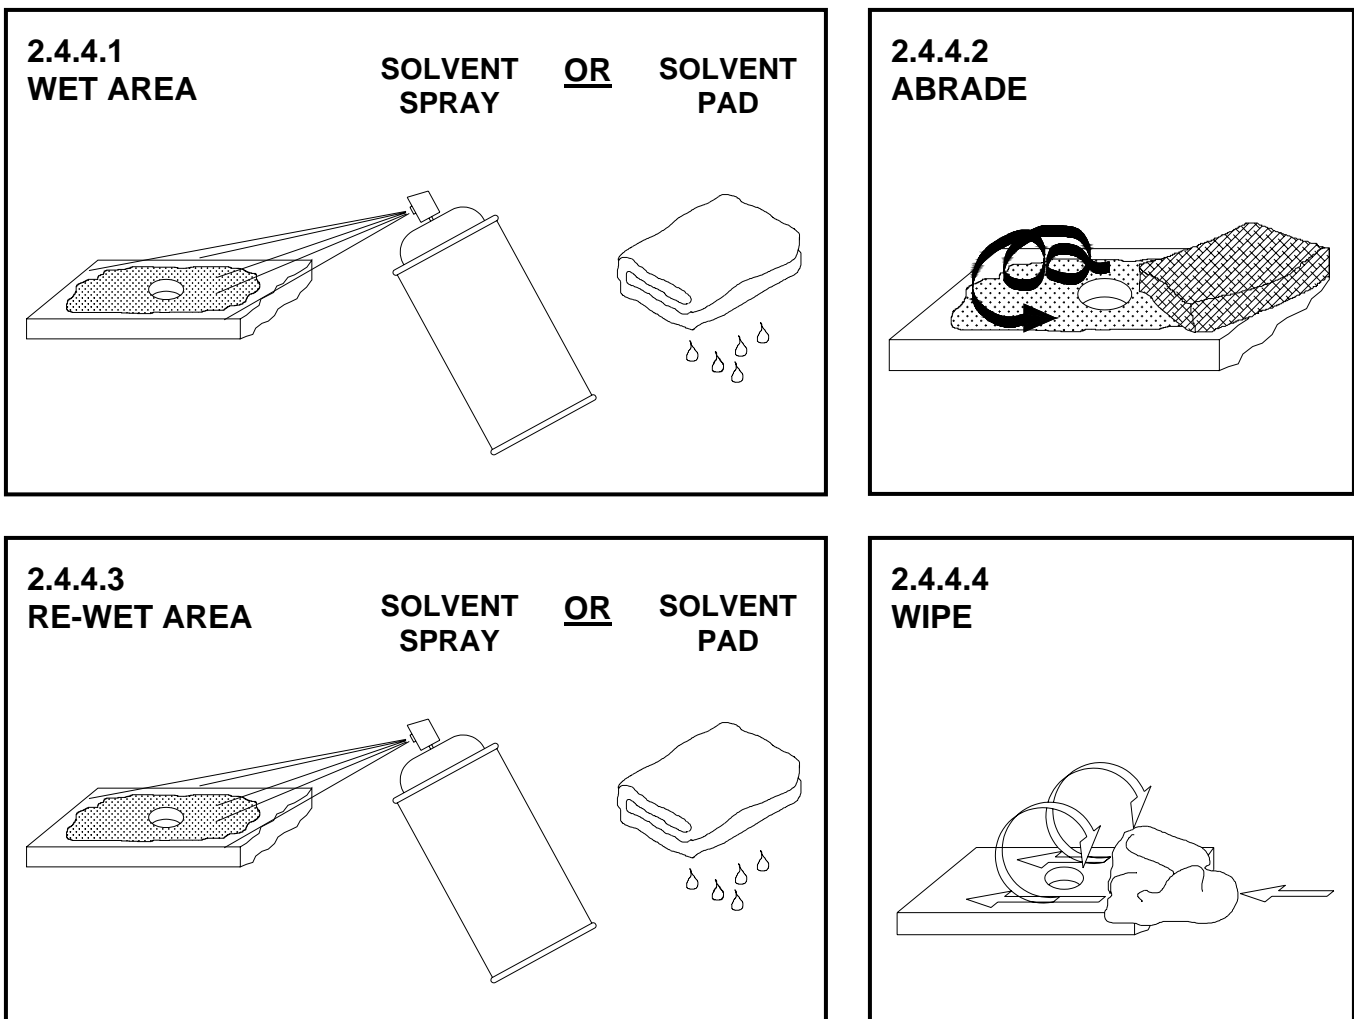

FIGURE 2. WET ABRASION PROCEDURE
2.4.4 Wet Abrading – Alternate surface abrasion method to 2.4.2 and 2.4.3 utilizes a solvent spray or solvent wipe process as shown in Figure 2.